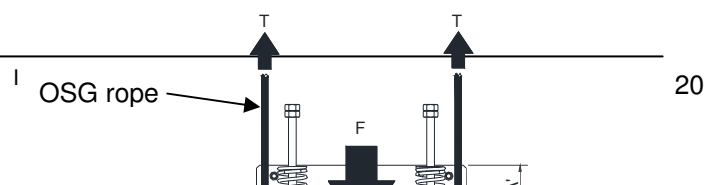

Figure 6 - Tension pulley setup
Check tension pulley for any debris and loose fixings. Also check tension pulley sits within tension indicator (*Figure 6 - Tension pulley setup*). Activate switch, de-activate pit stop and return to cabin. Access control panel (*4.2 Cabin operating panel (COP) removed, pg 4*) and check safety chain, chain should be lit to G1 only and feed from G1A to G1B will be lost. Return to ground floor and de-activate tension pulley switch.
Figure 6 shows the working of the tension pulley. Beneath the front plate (removed for clarity in right hand image) two compression springs apply a downwards force (F) onto the pulley, this in turn places tension (T) into the governor rope (i.e. the more the springs are compressed or the smaller dim 'A' becomes, the more tension is placed in the rope). The top of the pulley bracket must lie within the tension indicator slot to ensure correct tension in the rope.